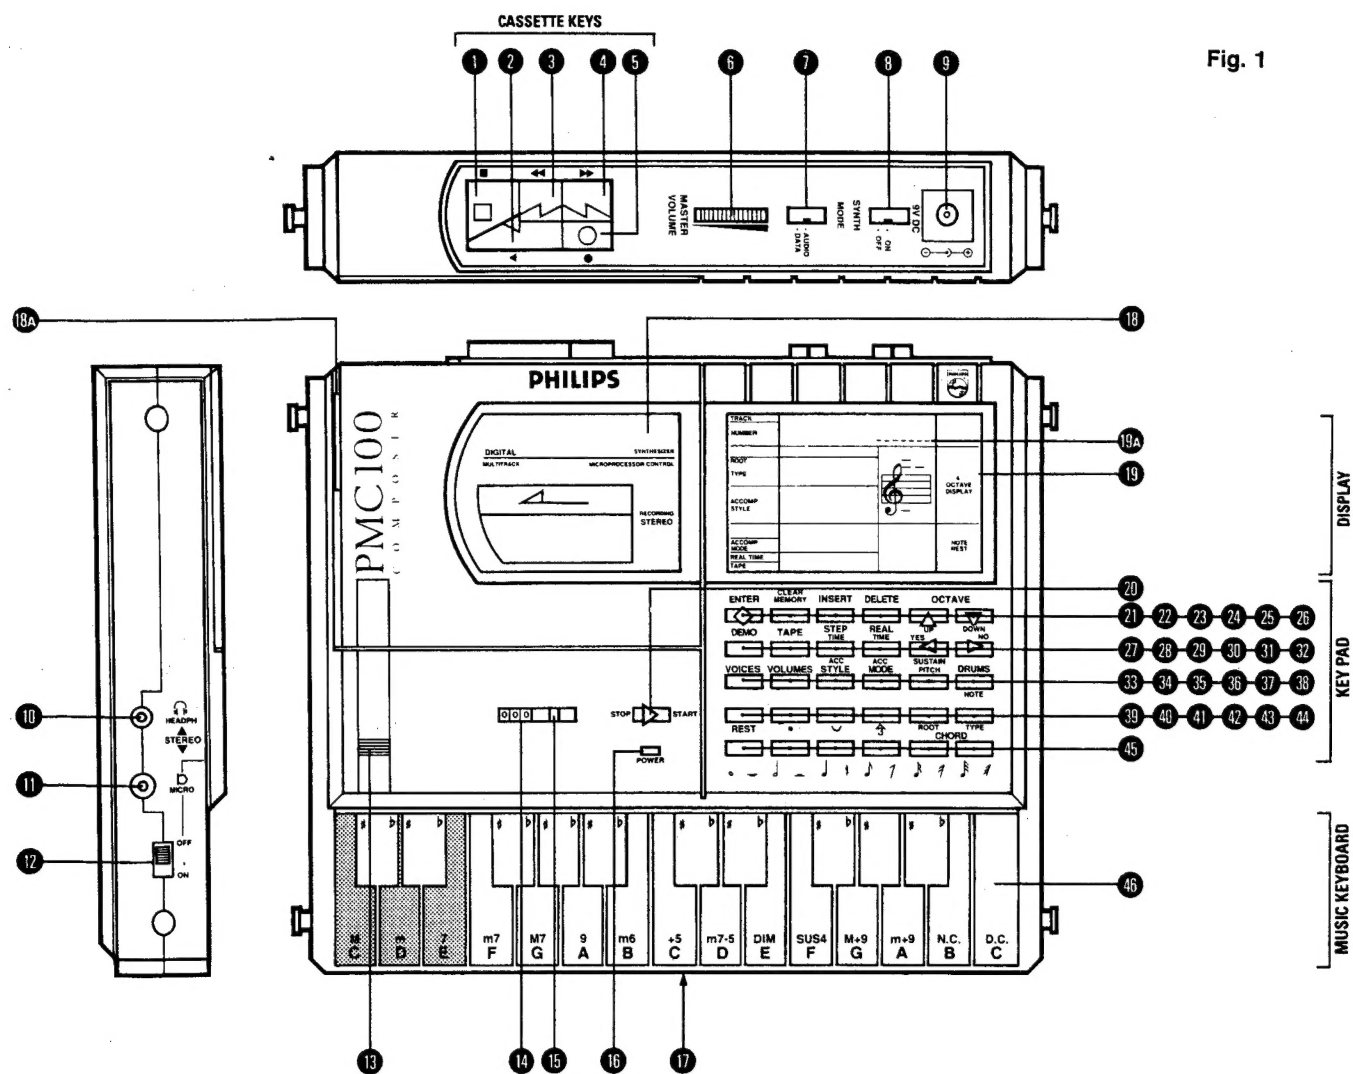

Fig. 1
The test procedure is started by keeping both the bottom left and bottom right keys on the control keypad pressed (pos. 45 in Fig 1: NOTE/REST VALUE KEYS) and then switching on the synthesizer (pos. 8 in Fig 1: SYNTH ON/OFF).
Any running test is stopped when the START/STOP key (pos. 20 in Fig 1) is pressed, and the next test is started immediately.
1. First, a RAM test is performed. This takes about 1s. If the RAM test is unsuccessful, the message "Err" is displayed in the numeric segment area (pos. 19A in Fig 1).
- All the LCD segments are switched off, and then each segment is sequentially switched on and off, one at a time. The time for this test is approx. 41s. If the START/STOP key (pos. 20 Fig 1) is pressed this test sequence is stopped.
- The number "56" is displayed on the LCD (pos 19A in Fig 1). This indicates the number of keys that remain to be pressed to complete the keyboard test. Each time a key is pressed, the number is decremented by 1. The keys do not have to be pressed in a specific order. The only rule is that the START/STOP key is pressed **last**. Pressing the START/STOP key at any time during the keyboard test terminates the keyboard test, and continues with the sound test.
- A tape out signal is generated. This is a 2KHz square wave. The AUDIO/DATA switch (pos. 7 in Fig 1) must be in the DATA position. The signal is not sent to the headphones output. Any key should be pressed.
- Press the "TAPE" key (pos. 28). The "LOAD" segment starts blinking, and the "SAVE" and "VERIFY" segments are switched on.
- Press the "ENTER" key (pos. 21). The "LOAD" segment stops blinking, but remains on, and the "SAVE" and "VERIFY" segments are switched off. The "CONFIRM" segment starts blinking.
- Press the "YES/CURSOR LEFT" key (pos. 31).
- Press the "PLAY" key (pos. 2) on the cassette unit. After a few seconds, a number is displayed on the LCD. The first one or two digit positions are blinking. The last two digits (the number of data blocks on tape) count down to 0. If the message "Err" is displayed on the LCD, the load was not successful.